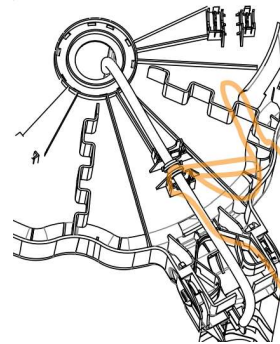

Figure 2.2
- B. Disconnect the 5 hose connections at the bottom (Figure 2.2)